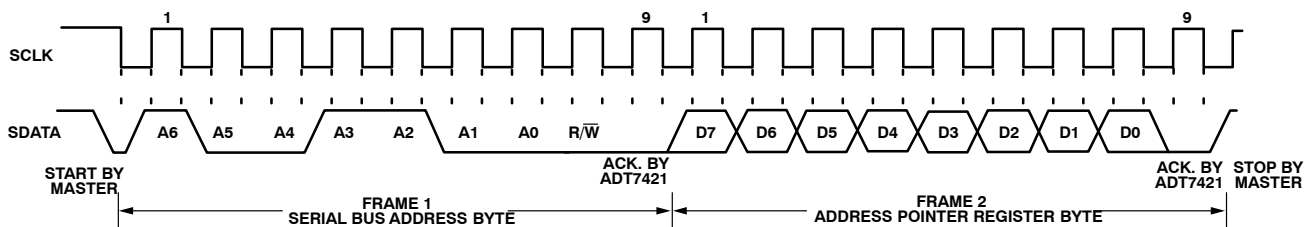

Figure 11. Writing to the Address Pointer Register Only
- If the address pointer register value of the ADT7421 is unknown or not the desired value, it is first necessary to set it to the correct value before data can be read from the desired data register. This is done by writing to the ADT7421 as before, but only the data byte containing the register read address is sent, because data is not to be written to the register (see Figure 11).
- If the address pointer register is known to be at the desired address, data can be read from the corresponding data register without first writing to the address pointer register and the bus transaction shown in Figure 11 can be omitted.